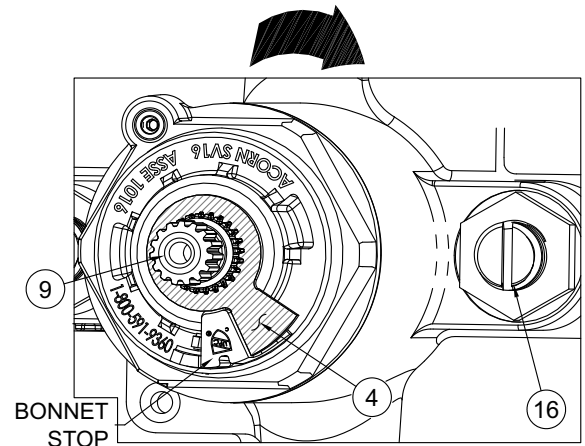

FIGURE 8
15. With the flow of water now shut off, place the first **temperature stop washer 4** on the **valve stem 9** keyed on the counter-clockwise side as close to the bonnet stop as possible. See **Figure 8**.